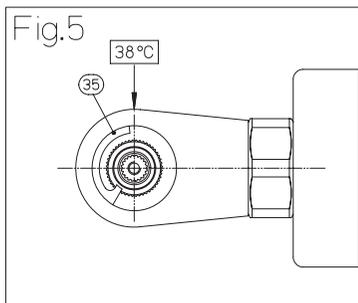

Fig.5
Place the temperature nut (35) as shown in "Fig.5", position the insert (38) and the handle (24) making sure that 38° matches the temperature ring mark and screw the group with the grub screw (21). Place the cap (22).